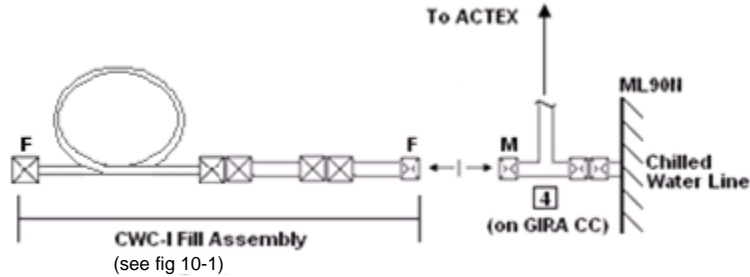

Figure 10-7.- CWC-I Fill Assembly removal.
- ML90N 5. CWC-I Fill Assembly ←|→ Chilled Water Line Tee QD (#4 on GIRA Cue Card)(see fig 10-7)